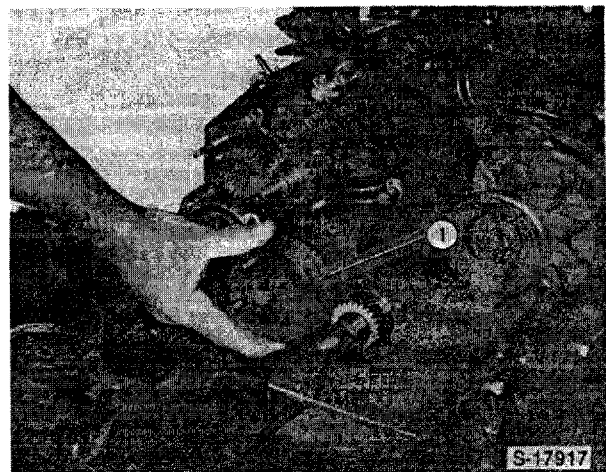

Figure 45
- Insert the port block assembly into the installer and place on the guide pins as shown, Figure 45.